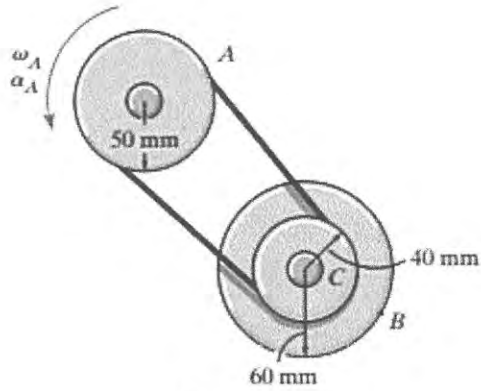

Figure Q1
- Q1.** Figure Q1 shows a belting assembly of air compressor. At the instant  $\omega_A = 5 \text{ rad/s}$ , pulley A is given an angular acceleration  $\alpha = (0.8\theta) \text{ rad/s}^2$ , where  $\theta$  is in radians. Pulley C has an inner hub which is fixed to its outer one and turns with it.